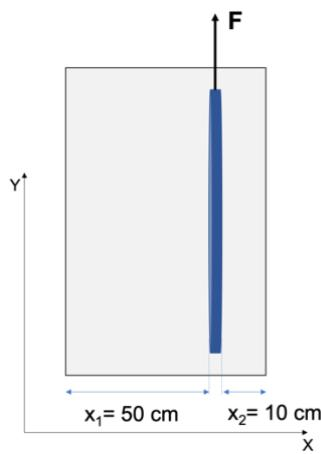

Figure 4
b) Look at Figure 4. Can you estimate the **velocity** at which the window is pulled out when it is still submerged?